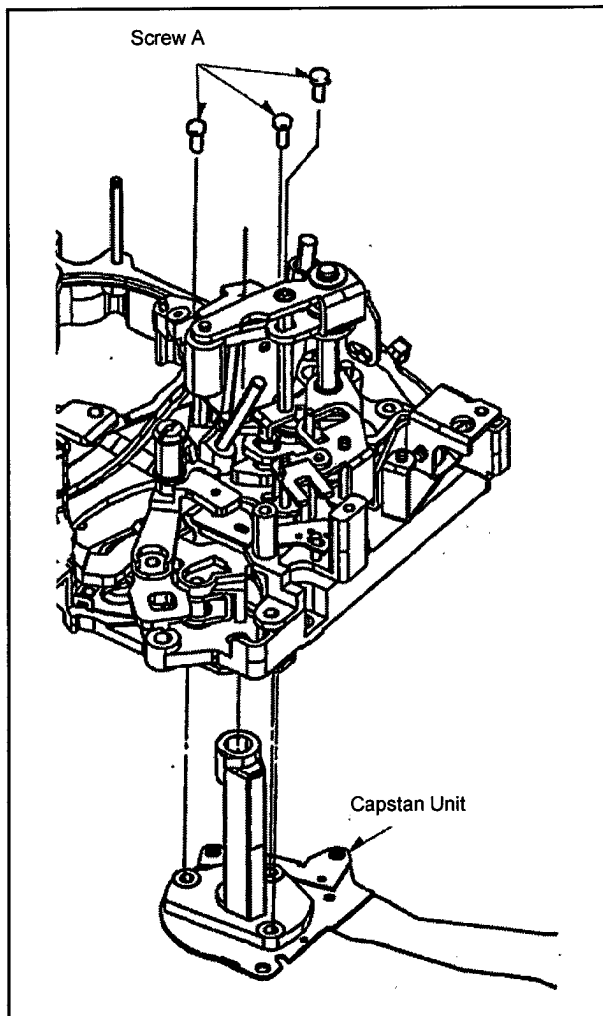

Fig. 4-6
2. Unscrew the 3 screws (A) as shown in Fig. 4-6 and then remove the Capstan Unit from the lower side of Mechanical Chassis.